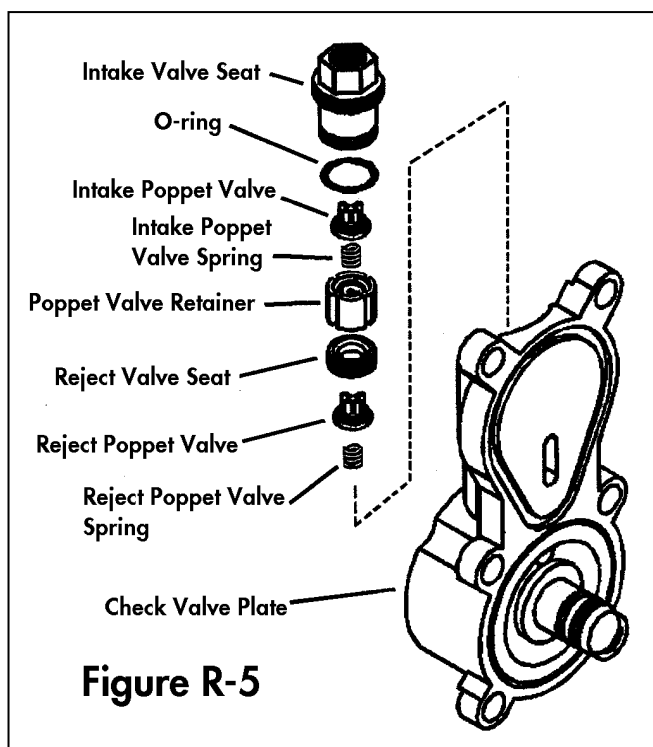

Figure R-5
10. Disassemble the valves in the check valve plate (see **Figure R-5**.) Use a 5/8" open end wrench to unscrew the intake valve seat. Remove the intake poppet valve and its spring. If necessary, use needle-nosed pliers to remove the poppet valve retainer. Then use the pliers to lift out the reject poppet valve and its seat. Grip the x-shaped ribs of the reject poppet valve and pull straight up. The seat will be pulled out along with the valve. After the reject poppet valve and its seat have been removed, retrieve the reject poppet valve spring from the bottom of the check valve plate cavity.
6. Prepare the check valve plate for reassembly by installing the new poppet valves. Note that both the intake and reject poppet valves and valve springs are identical. Refer to **Figure R-5** during the following procedure: